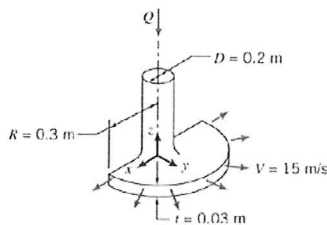

Figure 4
- The nozzle shown in figure 4 discharges a sheet of water through a 180° arc. The water speed is 15 m/s and the jet thickness is 30 mm at a radial distance of 0.3 m from the centerline of the supply pipe. Find (a) the volume flow rate of water in the jet sheet, and, (b) the y component of force required to hold the nozzle in place.